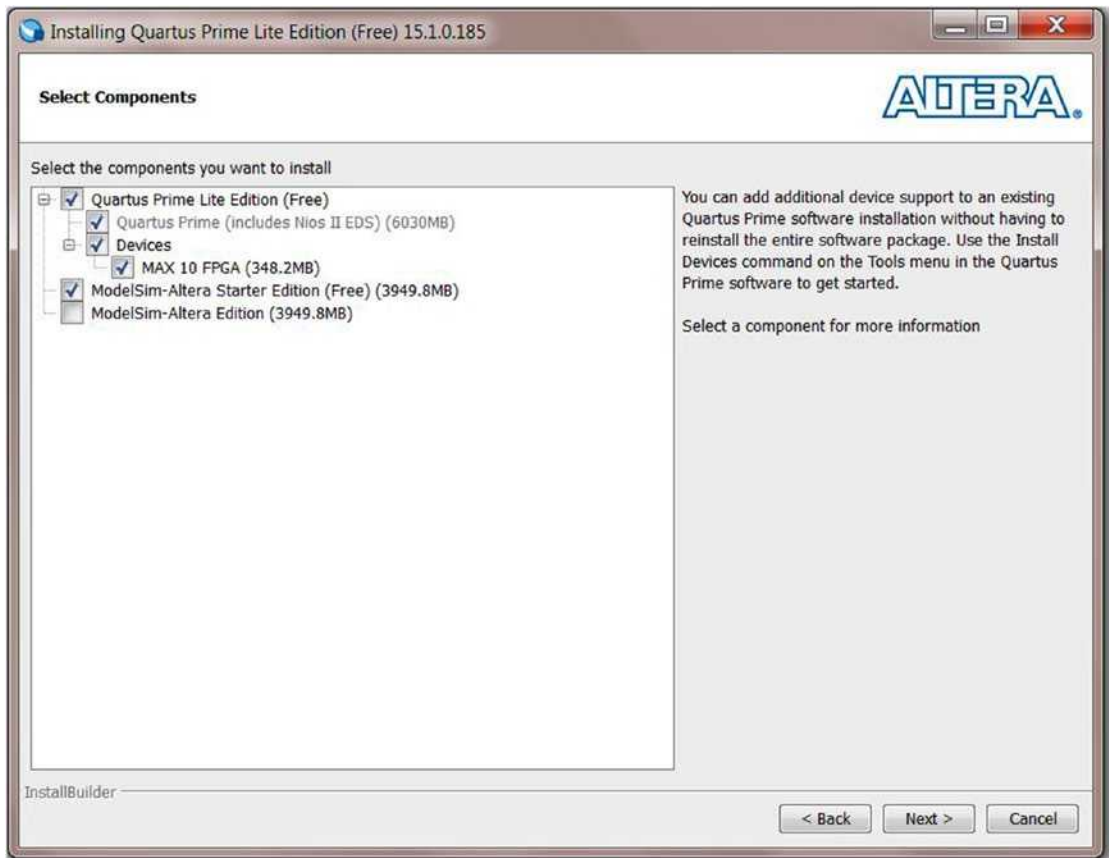

Figure 3-13. Select components.
- 4. Check Quartus Prime Lite Edition (Free), MAX 10 FPGA, and ModelSim-Altera Starter Edition. It should look like Figure 3-13. Click **Next** to move forward.